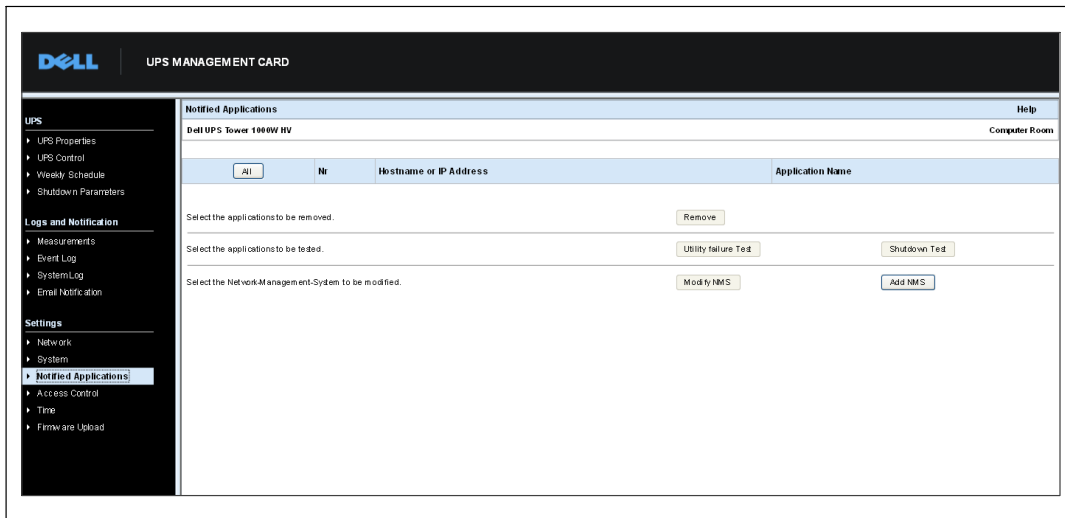

Figure 33. Notified Applications Page
- 1 Select **Notified Applications** from the menu bar. The Notified Applications page opens (see Figure 33).